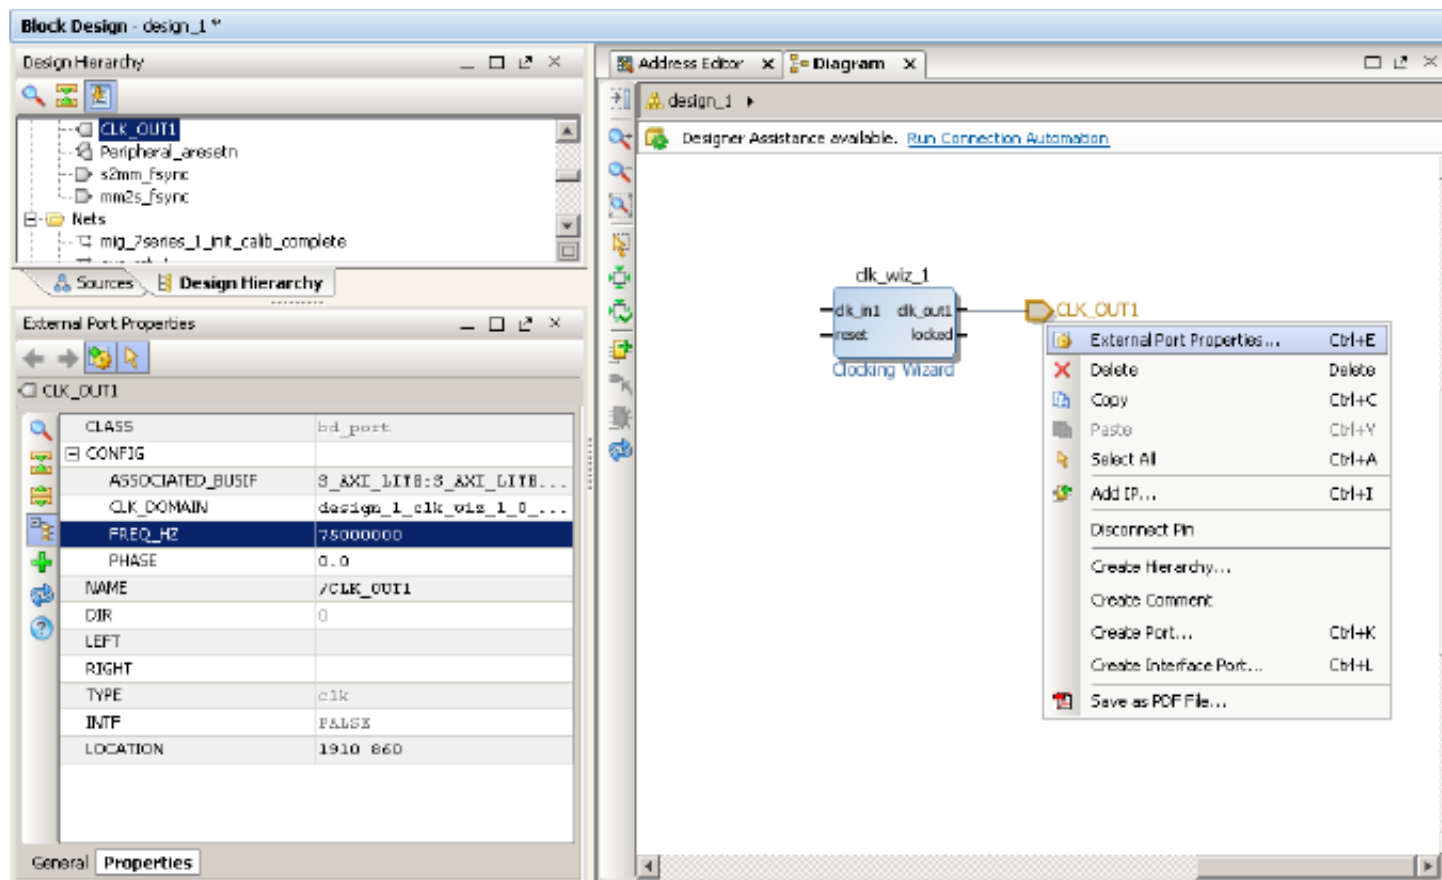

Figure 57: Set Frequency for Clock Ports
1. To set the clock frequency and the phase for the output port, CLK\_OUT1, (Figure 57):